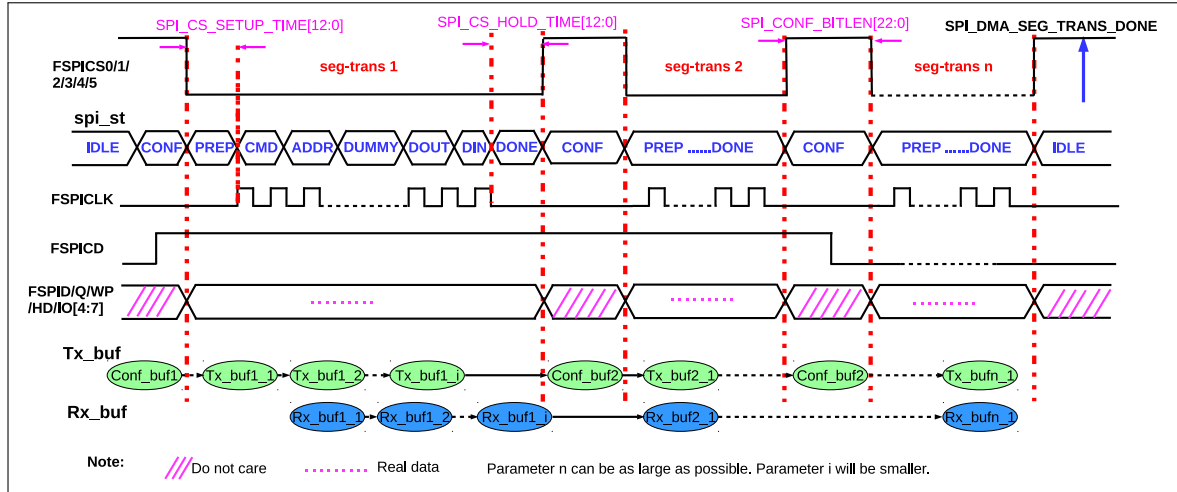

Figure 22-9. Segmented-Configure-Transfer in DMA Controlled Master Mode
An SPI transfer, controlled by the registers of GP-SPI2, needs to be configured and triggered by the CPU. To reduce CPU cost and to increase the efficiency of GP-SPI2, DMA segmented-configure-transfer function is provided in DMA-controlled master mode. (Note that CPU-controlled master mode does not support segmented-configure-transfer function.) Segmented-configure-transfer enables GP-SPI2 to do as many times of transfer as configured, with only one triggering by CPU. Figure 22-9 shows how the segmented-configure-transfer function works in DMA-controlled master mode.
As shown in Figure 22-9, GP-SPI2 registers can be reconfigured by GP-SPI2 hardware according to the content in a `Conf_bufi` during CONF state, before one single segmented-configure-transfer, `SCTi`, begins.
For example, as shown in Figure 22-9, `SCTi` can be configured to DMA-controlled full-duplex communication; `SCTj` can be configured to DMA-controlled half-duplex MISO mode; and `SCTk` can be configured to DMA-controlled half-duplex MOSI mode. *i*, *j*, and *k* are integer variables, which can be any SCT number.
It can be seen from Figure 22-9, Figure 22-10, and Figure 22-11 that a good way for GP-SPI2 to output parallel 8-bit RGB frame data is as follows:
- Data is output in each frame line in a segmented-configure-transfer. One valid video line is transferred in each single transfer (i.e. SCT_i in Figure 22-9) of segmented-configure-transfer. There are `SPI_LCD_VA_HEIGHT[9:0]` active video region lines in a frame, so that a frame data is sent in `SPI_LCD_VA_HEIGHT[9:0]` times of SCT_i.